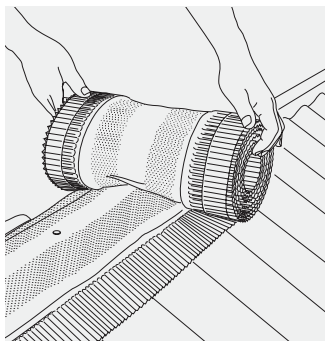

Fig. 78
- 4 Unroll RidgeFast roll centrally along entire length of ridge batten (Fig. 78) and fix at approximately 2 metre centres to ridge batten using felt nails. Overlap roll ends by 100mm at each joint. At gable ends, roll should be able to lap over the edge of gable tile/verge finish by approximately 50mm (where a bedded verge is used it should be cut back by 50mm).